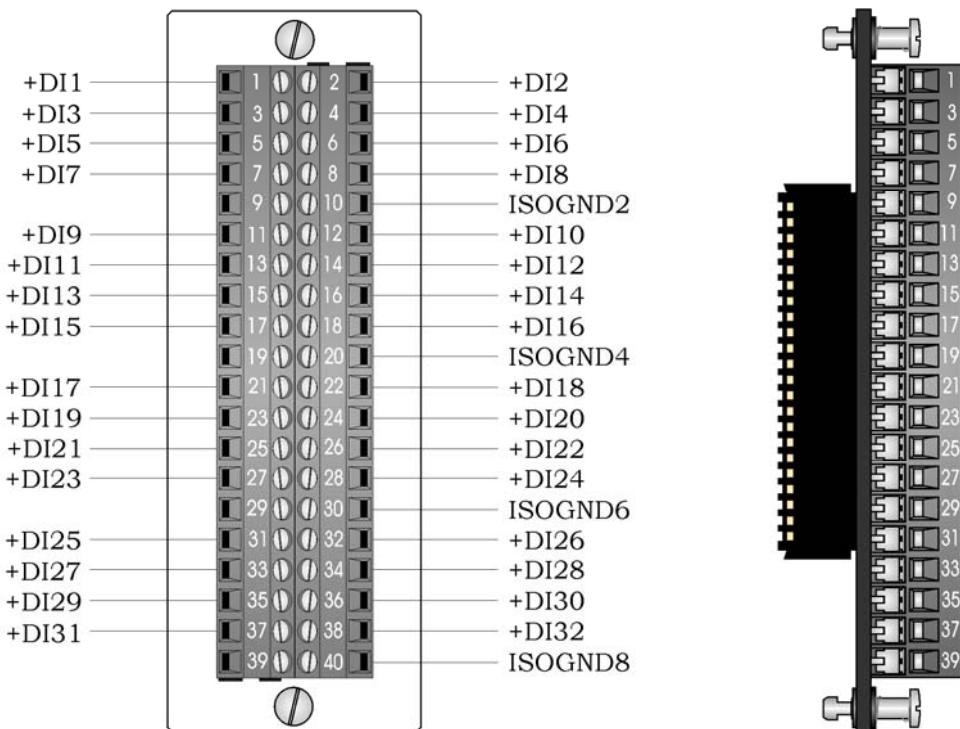
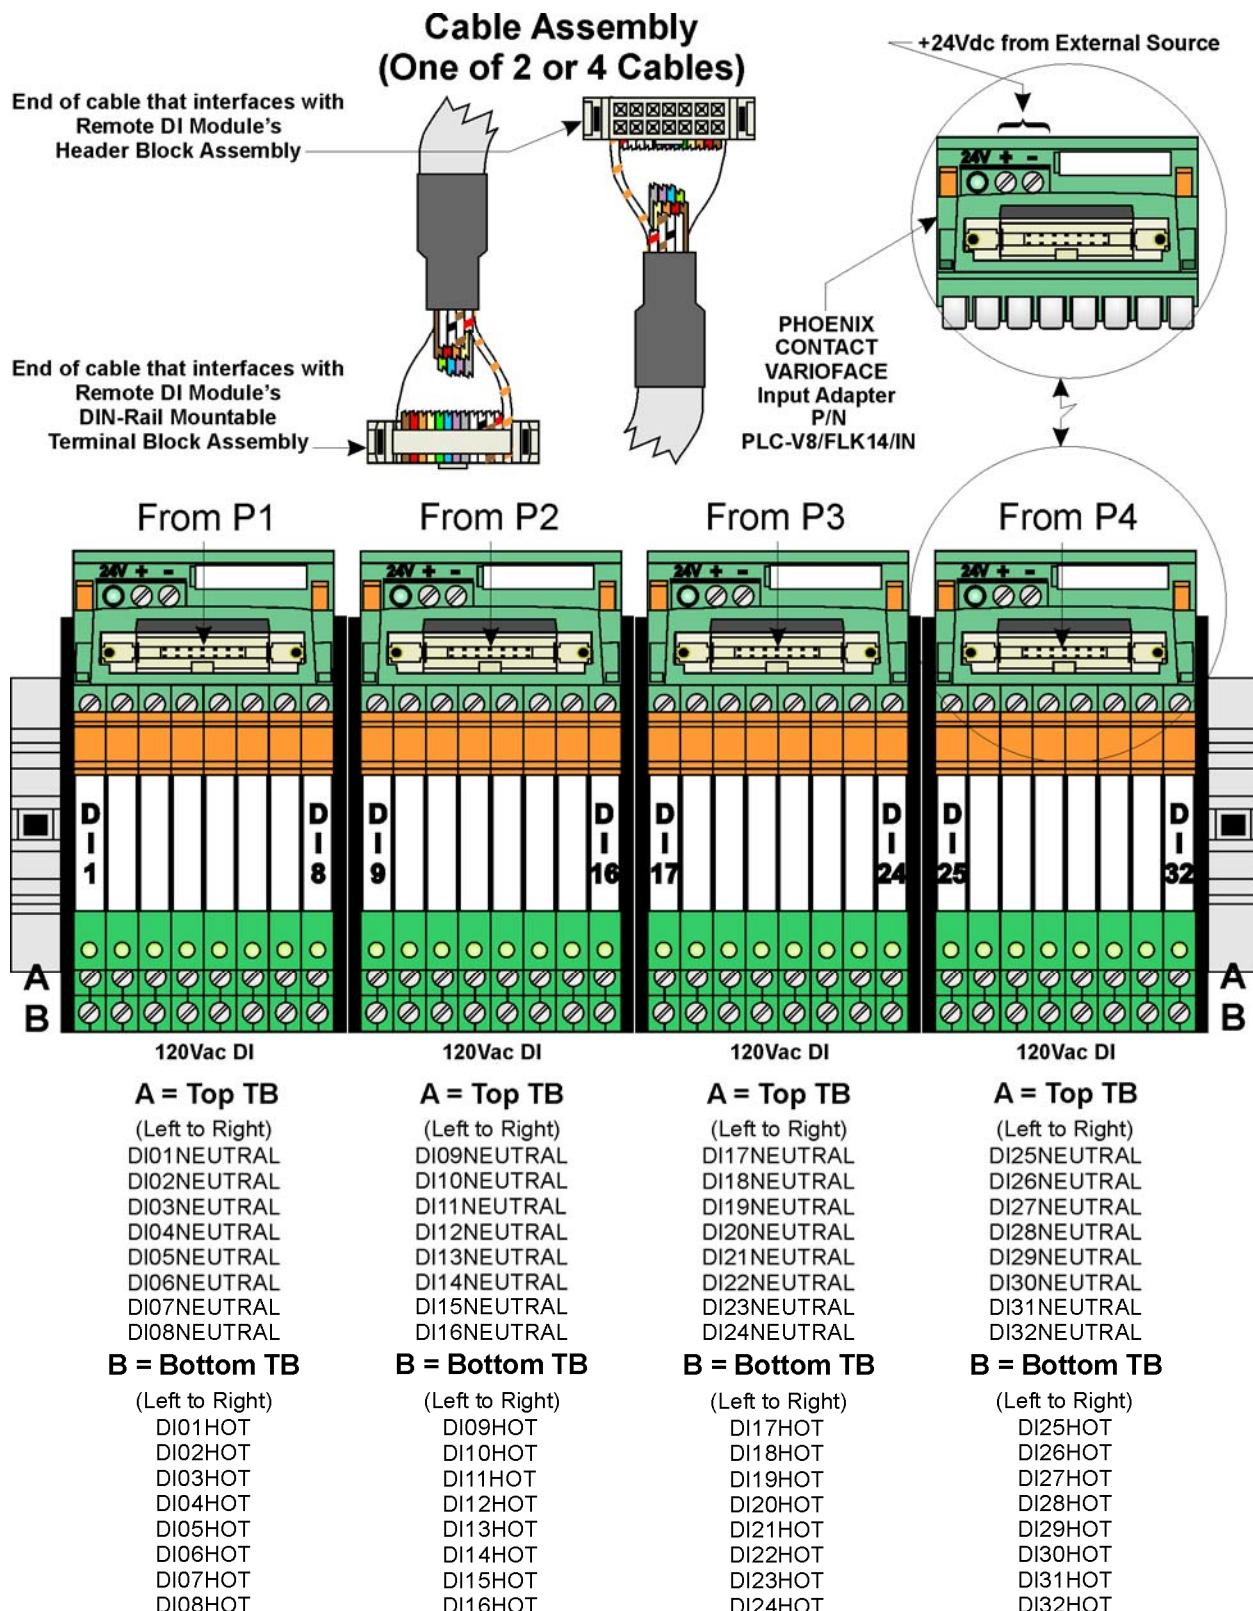

Figure 2-10 - Local Terminal Block Assembly Assignments for Internally Sourced DI Operation or Externally Powered DI Operation
Figure 2-12 - Remote DIN-Rail Mountable Terminal Block Assembly Assignments for Relay Isolated 120Vac DI Operation
2.3.2.4 Digital Inputs (see Figures 2-10, 2-11, 2-12, 2-13 & 2-14)
Field wiring assignments associated with the locally terminated DIRS Modules and remotely terminated DIRS Modules are provided in Figures 2-10 and 2-11 respectively. A special remote termination module with built-in discrete relay module that supports input from 120Vac DIs is also available (see Figure 2-12). The special remote termination module (with built-in discrete relay module) is interfaced to an externally sourced DI Module.